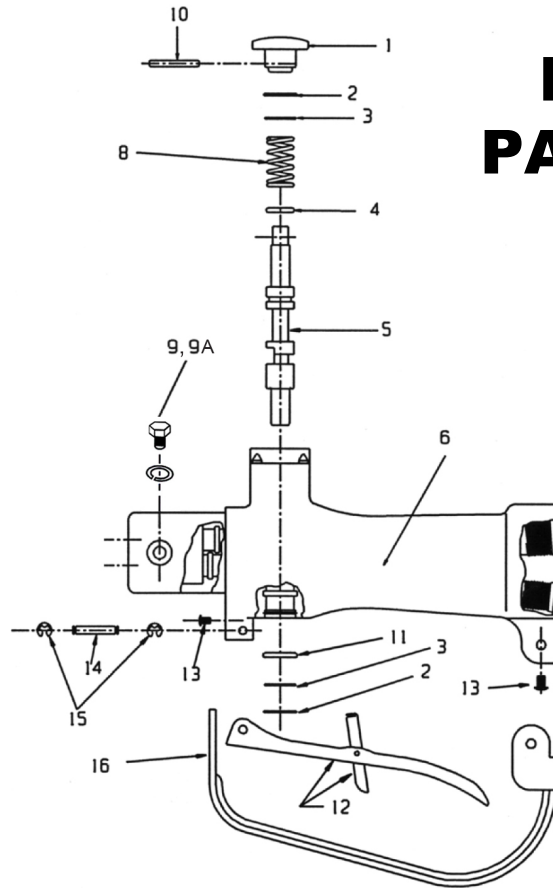

FIGURE 7
Refer to Figure 7, Page 18
Tie the two inner tubes together with the three O-rings (7) twisted in a figure 8 configuration. The pressure tube (6) is marked with blue ink on each end. The return tube (5) has no marking. As shown in Fig. 4, the pressure tube closest to the bottom of the page. The return tube is shown above the pressure tube. Tubes must be fitted into the Rear Tube Support (8) with the O-ring around its end (shown on the right.) The outer tube support can be inserted after placing it over the inner tubes and aligning it with the three holes in the head casting. Internal O-rings (1) should be replaced after disassembly. Remove and replace. Slide inner tubes (5 and 6) into their proper sockets with extreme care. The sockets can be seen in a cutaway section in Fig. 7. Be sure that the ends of the inner tubes are clean and free of burrs and tears so as not to cut or scratch the O-rings. Install the three oval head screws (11) and two hex head cap screws (9) and Lock Washers (9A).
See Figure 7, Page 18